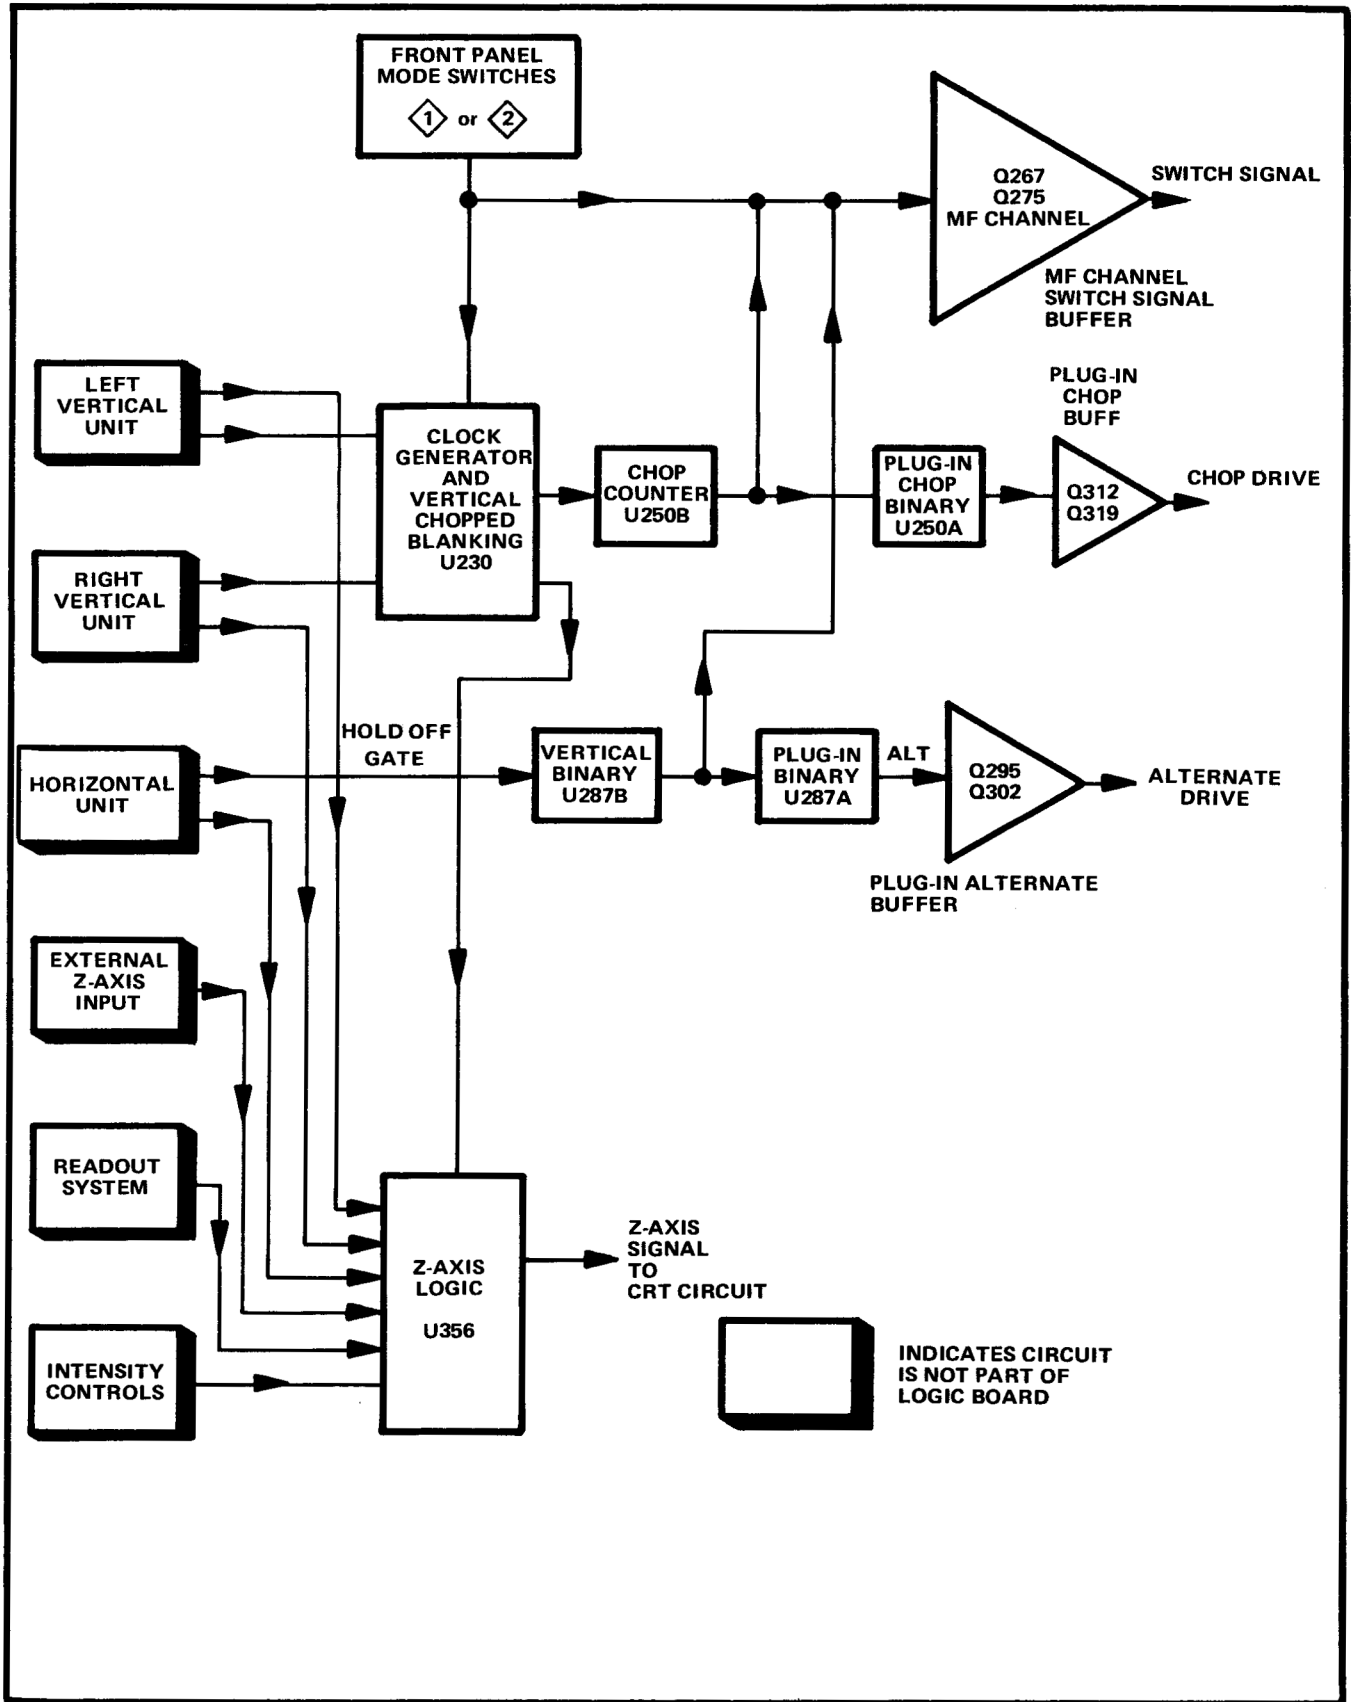

Fig. 3-2. Logic Block Diagram.
**Logic Block Diagram.** The block diagram of the Logic Circuit is shown in Fig. 3-2. This diagram shows the source of the input control signals, the output signals produced by logic circuit, and the basic interconnections between blocks. The interconnections shown are intended only to indicate inter-relation between blocks and do not indicate a direct connection or that only a single connection is made between the given blocks.